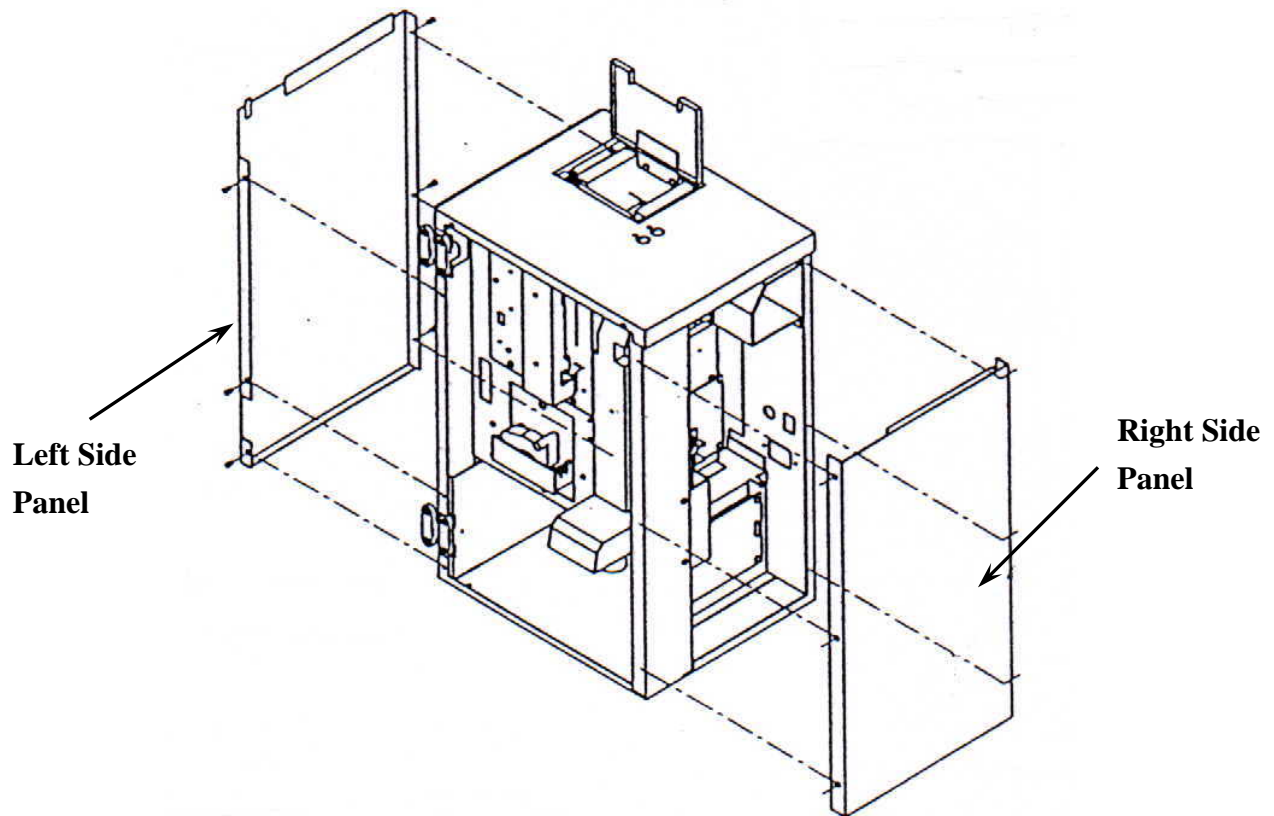

Figure 3-1. Right and Left Side Panels Replacement.
2. Remove the six screws on the right or left side panel (Figure 3-1).
2. Fasten the six screws on the right or left side panel (Figure 3-1).
3. Remove the left side panel (Figure 3-1).
4. Reinstall the left side panel (Figure 3-1).
6. Install the left side panel (Figure 3-1).
2. Remove the right side panel (Figure 3-1).